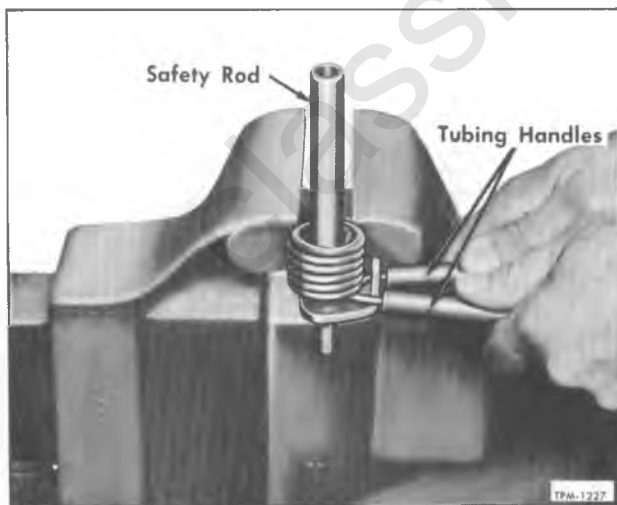

Figure 17—Removing Torsion Spring (Rockwell)
5. Remove three screws and lock washers (1) which attach motor cover (4) to housing. Pull out motor (6) with cover (4) attached to motor, with two cover nuts (2). Grommet (7) can then be removed.
6. Remove two jam nuts (9) and fiber washers (10) from outside of housing. On inside remove switch to housing screws (18). Remove automatic switch.
7. Do not disassemble torsion spring (23), and spring winding lever (22) unless necessary to replace one of the parts. If necessary to disassemble, mount assembly in vise as shown in figure 17. Place a short piece of rod in hub of spring winding lever as a safety factor to prevent injury should torsion spring slip out of control. Next, place two lengths of tubing over ends of spring, pull spring